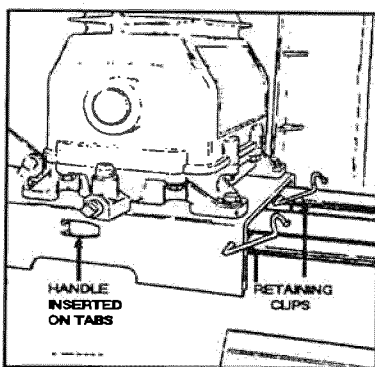

FIG. 3
2. Guide the straight end of each retaining clip through the saddle hole and both handle holes (Fig. 3).